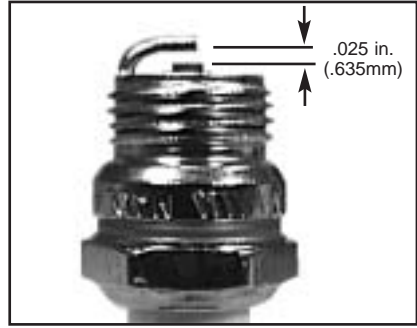

Fig. 8-4A
1. Spark plug gap = .025 in. (.635mm) (Figure 8-4A).
1. L'écartement de bougie = 0,635mm (0,025 po) (Figure 8-4A).